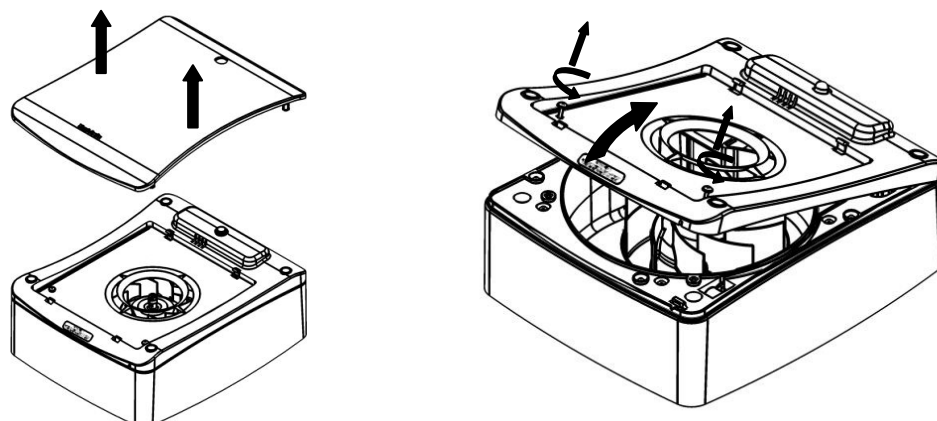
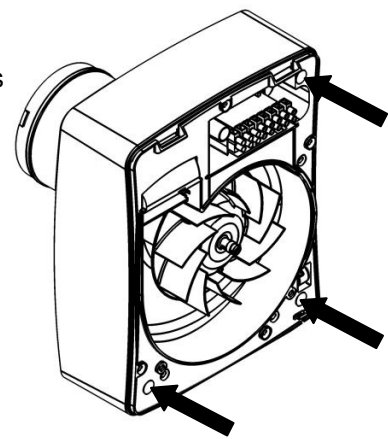

Fig. 2.
Fig. 4.
3. Remove the Spigot Ring from inside the carton and clip over the Spigot Adaptor making sure the lip on the Spigot Ring locates firmly inside the groove on the Spigot Adaptor (Fig 2). Ensure that the Spigot Adaptor is firmly located onto the Base Housing and the shutter is still securely fastened and fully functional.
3. Remove the Spigot Ring from inside the carton and clip over the Spigot Adaptor, making sure the lip on the Spigot Ring locates firmly inside the groove on the Spigot Adaptor (Fig 2). The Spigot can be repositioned for side exit installations by removing the screw and sliding the spigot away from the rear of the Base Housing, carefully observing the guide rails (Fig 4). The Spigot can then be rotated and repositioned for side exit using the same guide rails and retaining screw (Fig 4). Ensure that the Spigot Adaptor is firmly located onto the Base Housing in the required orientation and the shutter is still securely fastened and fully functional.
6. Remove the Spigot Ring from inside the carton and clip over the Spigot Adaptor making sure the lip on the Spigot Ring locates firmly inside the groove on the Spigot Adaptor (Fig 2). Ensure that the Spigot Adaptor is firmly located onto the Base Housing and the shutter is still securely fastened and fully functional.